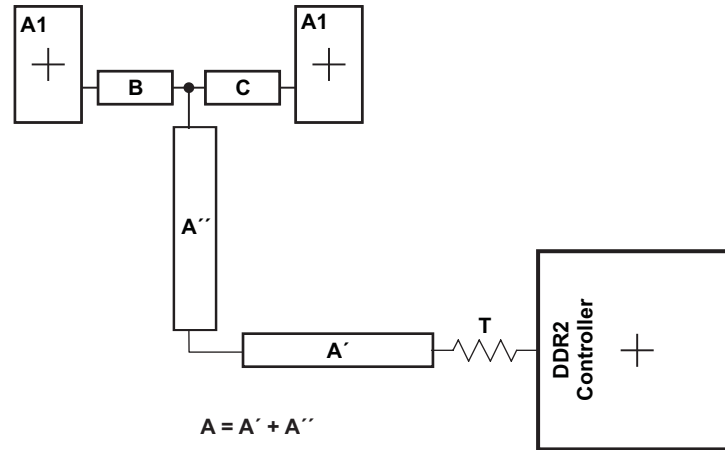

Figure 8-51. CK and ADDR_CTRL Routing and Topology
Figure 8-51 shows the topology of the routing for the CK and ADDR_CTRL net classes. The route is a balanced T as it is intended that the length of segments B and C be equal. In addition, the length of A ($A'+A''$) should be maximized.
(1) The length of segment $A=A'+A''$ as shown in Figure 8-51.
(2) Center-to-center spacing is allowed to fall to minimum (w) for up to 500 mils of routed length to accommodate BGA escape and routing congestion.
(3) CACLM is the longest Manhattan distance of the CK and ADDR_CTRL net classes.